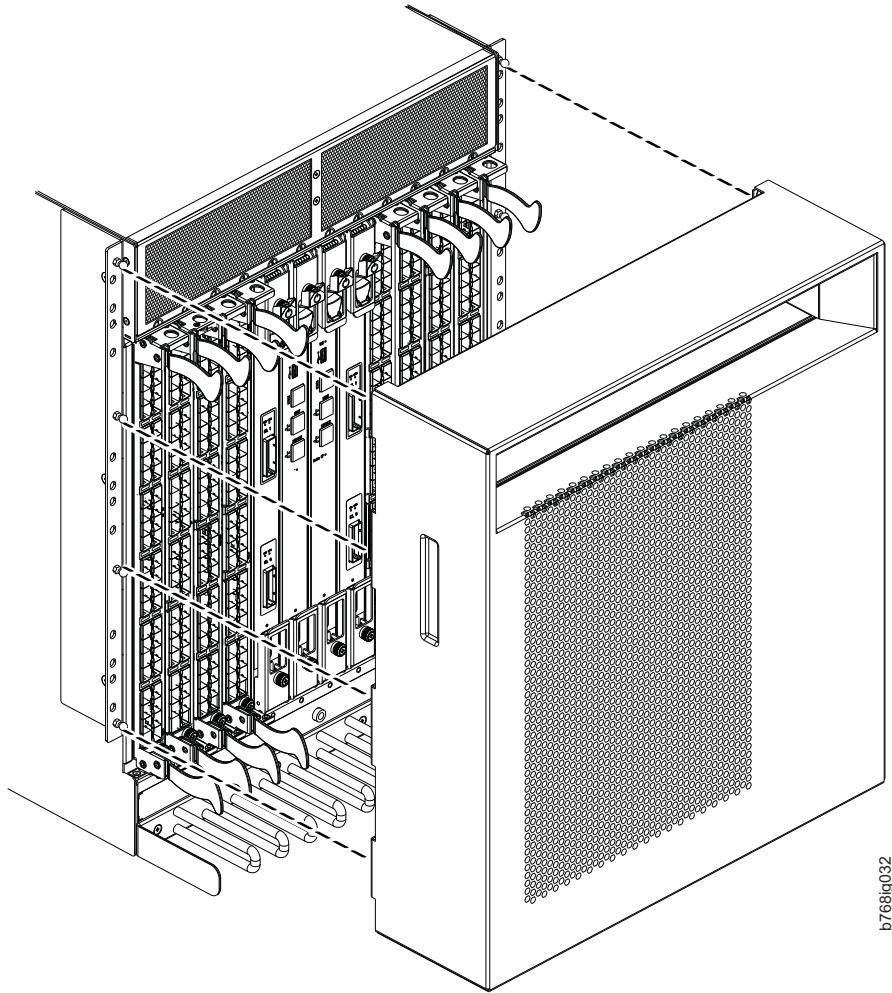
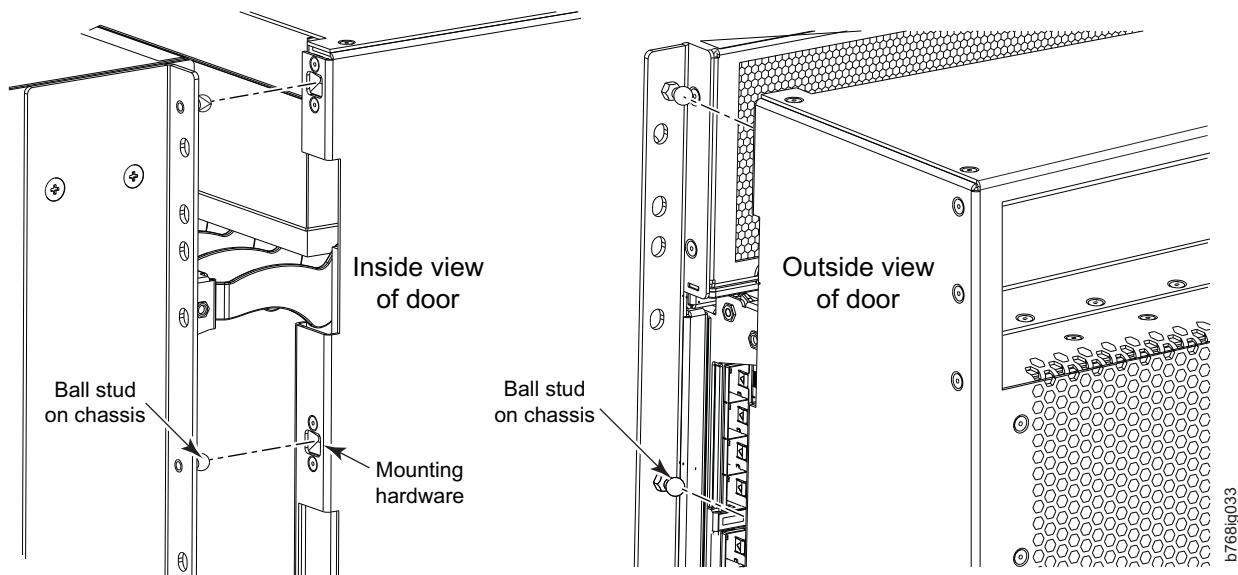

Figure 10. Aligning the chassis door with the ball studs on the chassis
Figure 11. Details of the chassis and door, showing the ball studs on the chassis and the mounting hardware on the door
23. Reinstall the chassis door. Align the door with the chassis and push it into place, as shown in Figure 10 on page 25 and Figure 11 on page 26.